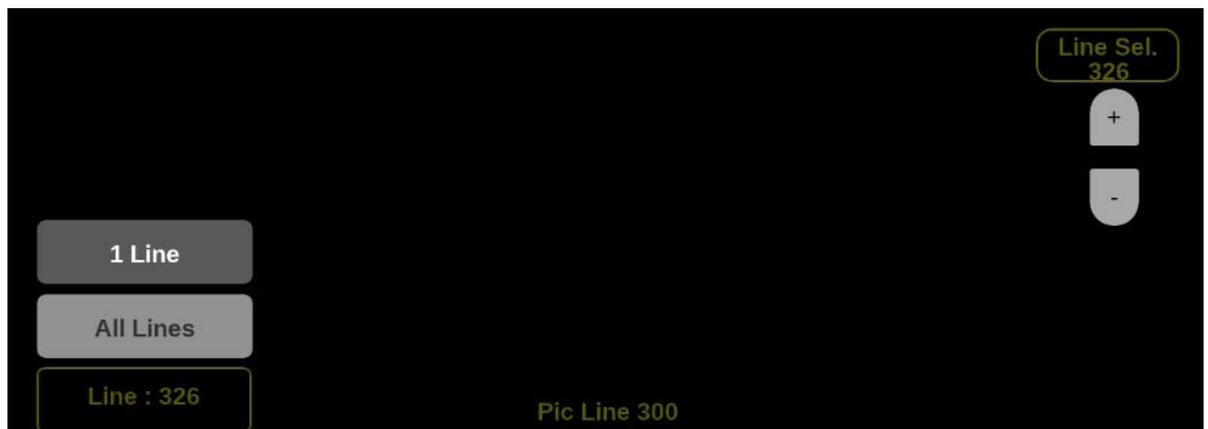

Figure 204: Diamond on-screen tools – Line Select
If **1 Line** is selected then the display will only show results for the selected line in the picture. The line can be selected using the on-screen tools. (See Line Select function.) Or the line can be selected directly on the Picture. (See Figure 204.)
1. Select the **Lines** button at the bottom of the application. (See Figure 204.)